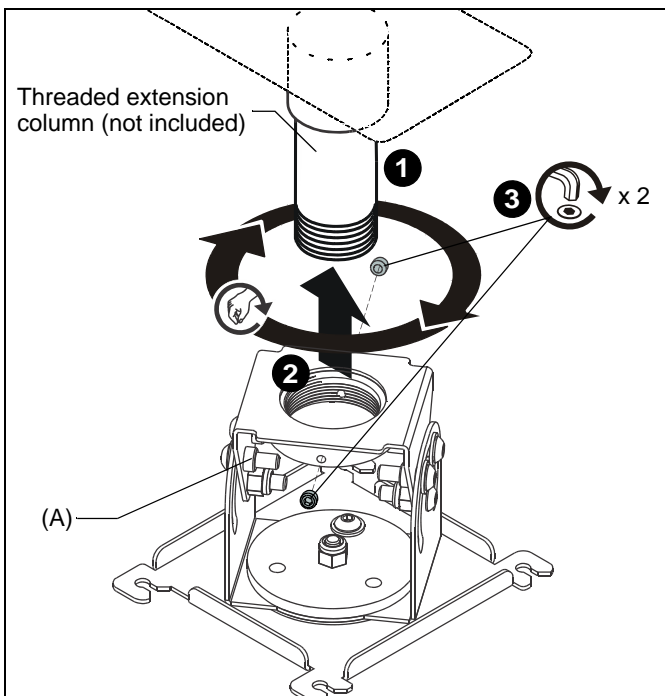

Figure 1
2. Thread VPAU projector mount (A) onto the threaded extension column (not included) until hand tight, with a minimum of four threads engaged.
3. Secure VPAU to pipe by installing and tightening one or two 5/16-18 x 1/4" set screws (D) until tight. (See Figure 1)